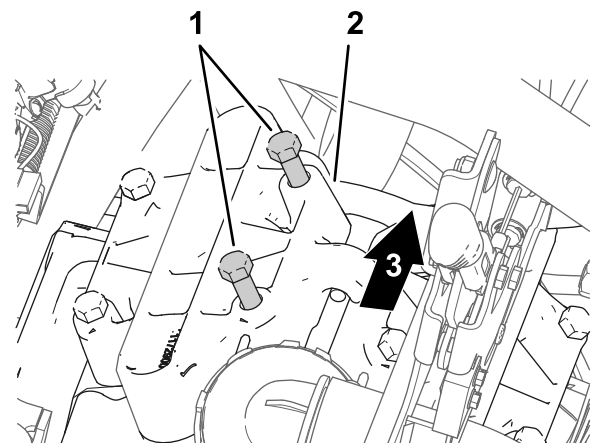

Figure 176
1. At the pump head located at 11 o'clock position, loosen the 2 bolts as shown Figure 176 to provide a 7 to 10 mm (1/4 to 3/8 inch) gap between the head of the bolts and the pump.